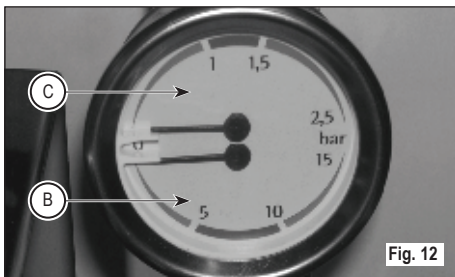

Fig. 12
- The set pump pressure is displayed in the bottom section "B" of the pressure gauge, inside the machine (see Fig. 12);
- The pressure set on the pressure switch is displayed in the top section "C" of the pressure gauge, inside the machine (see Fig. 12);